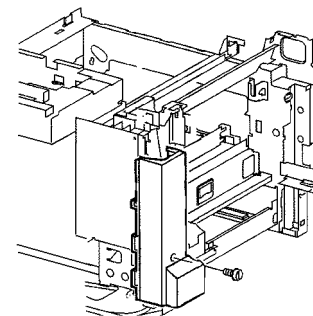

Figure 1 Removing Rear Left Middle Cover
4. Remove Rear Left Middle Cover (Figure 1).
- a. Remove Screw (1).